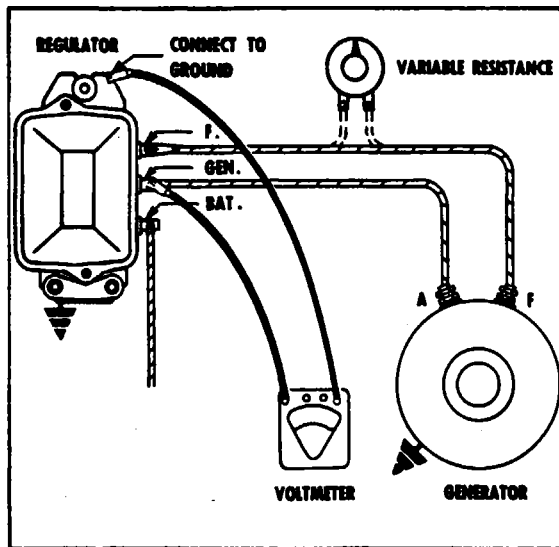

Figure 11-12. Checking Cutout Relay Closing Voltage
c. Closing Voltage: Connect regulator to proper generator and battery. Connect voltmeter between the regulator GEN terminal and ground. (Refer to Figure 11-12.)
Method 2: Make connections as in Step c; but, in addition, add a variable resistor connected into the field circuit. (Refer to Figure 11-12.) Use a 25-ohm - 25-watt resistor. Operate generator at medium speed with variable resistance turned all in. Slowly decrease (turn out) the resistance until cutout relay points close. Note closing voltage. With cover in place, slowly increase (turn in) resistance to make sure points open.